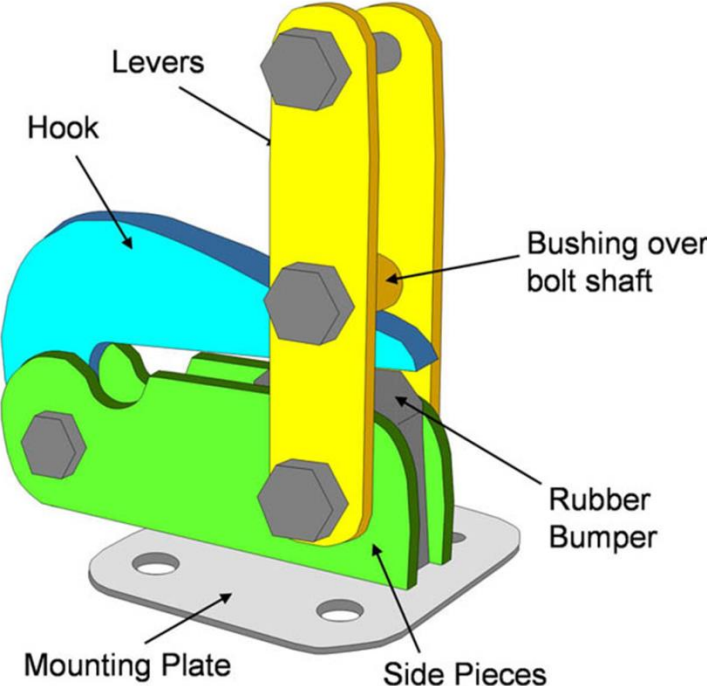

Figure 23: R.S. Hoover's Tail hook Design
R. S. Hoover designed the tail hook shown in Figure 23. You can find the drawings for this hook at <http://www.bowersflybaby.com/tech/Tail%20Hook%20Drawings.pdf>.